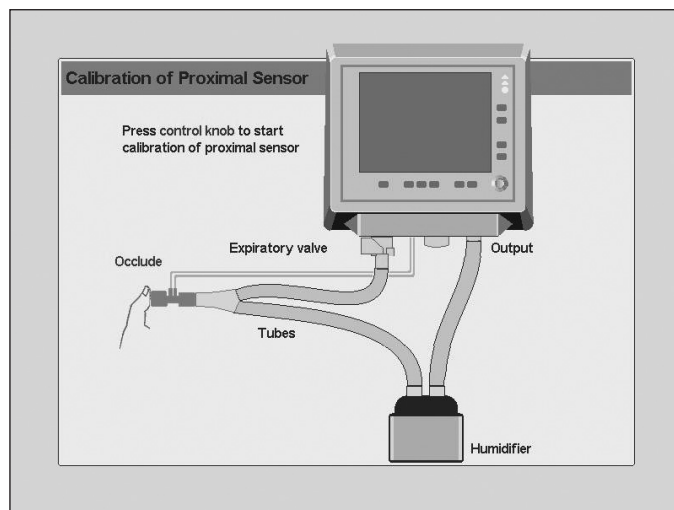

Fig. 7-16 Screen image prior to the first stage of the proximal flow sensor calibration.
1. Seal the free end of the proximal flow sensor. The screen displayed is shown in Fig. 7-16